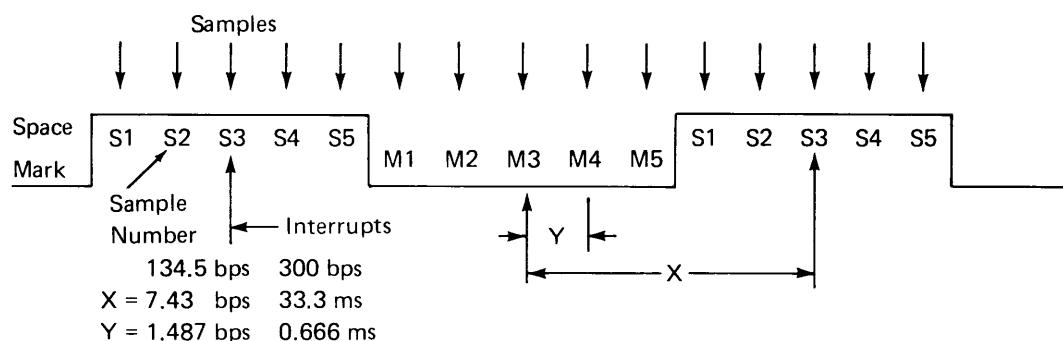
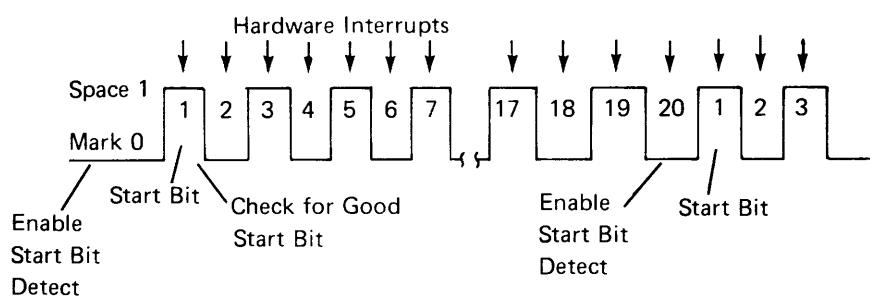

Figure 3-1. Sample Sequence
Figure 3-2. Synchronization Sequence
The network analysis subroutine samples and analyzes an alternating mark and space pattern of either 134.5 bps or 300 bps received by the 5110. The 'received data' line is sampled at a uniform rate of five samples per bit (Figure 3-1). The routine expects five samples of space level, followed by five samples of mark level, and so forth. Deviations from the expected results are called mark errors and space errors. The number of samples in error is accumulated in counters and is displayed at the end of the test. (See *How Data Is Accumulated*.) The total number of bits sampled (both marks and spaces) is also counted. In addition to mark samples and space samples, the network analysis subroutine checks consecutive bit relationships by comparing the position of a pulse from the asynchronous comm/serial I/O card to the five mark samples or space samples. Sampling of consecutive bits is synchronized by a hardware timer interrupt that ideally occurs at the midpoint of the bit (Figure 3-2). The hardware timer is synchronized every 20 bits on a space bit.
3. Number of sample errors for each sample position for both mark and space bits (Figure 3-2)
The third graph plots the occurrences of various lengths of error-free bit strings received during the test. An error-free bit string is a consecutive series of bits in which the center sample (sample 3, see Figure 3-1) was correct. The beginning of an error-free bit string is either the start of the test or the first correct bit after the last error bit. The end of an error-free bit string is the bit preceding an error bit. The error-free bit string is a count of the error-free bits that the 5110 received between failures.